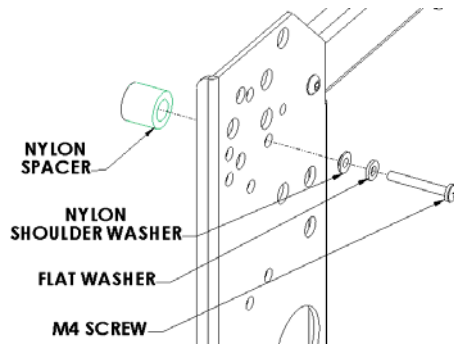
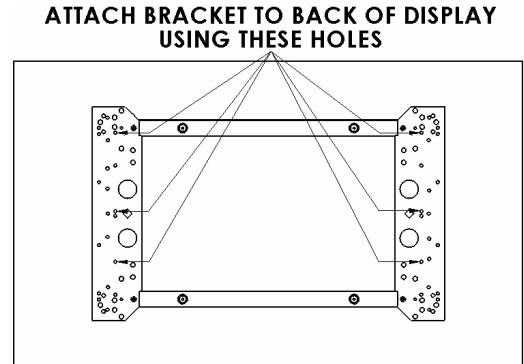

Figure 6
Figure 7
3. Place Nylon spacers over the mounting holes on back of screen. Attach mounting brackets to display using the M4 screws, shoulder washers and flat washers (See Figure 6 & Figure 7).